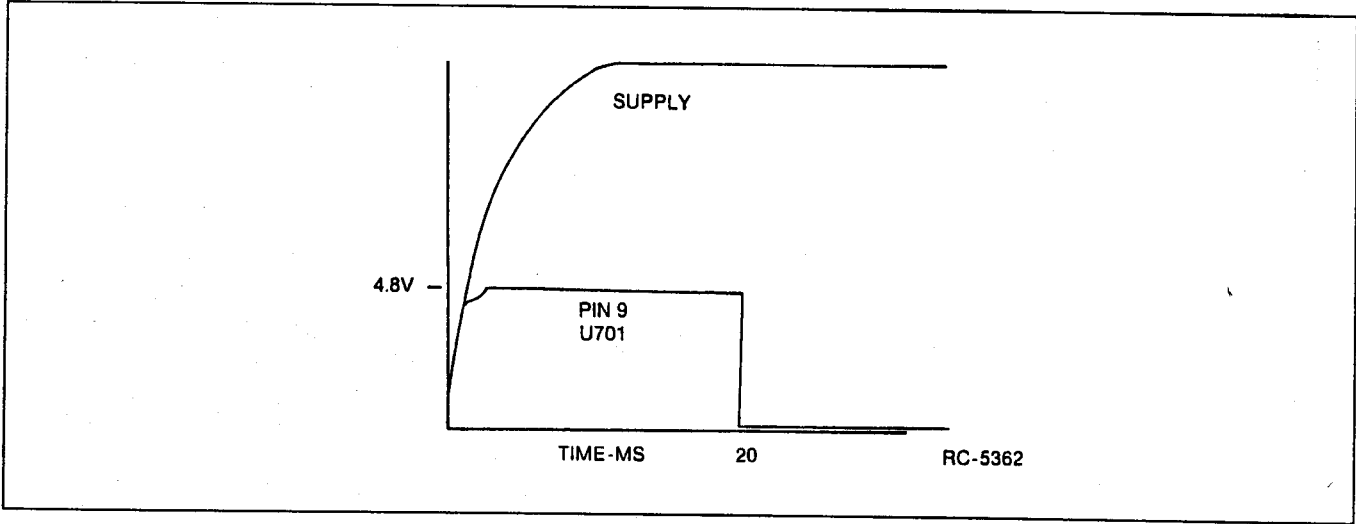

Figure 2 - Reset Waveform
2. Check the Microcontroller Reset line (U701, Pin 10). If Reset is occurring, check the Regulator U705, Pin 2 and Q701. See Figure 2 for Reset Waveform.